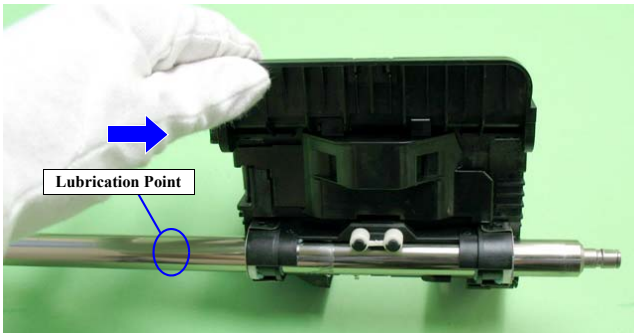

Figure 6-16. Lubricating the Carriage Shaft (3)
4. Move the Carriage Unit to the right end of the Carriage Shaft viewing the Unit from the rear, and lubricate grease with the syringe at the point shown in *Figure 6-16*.